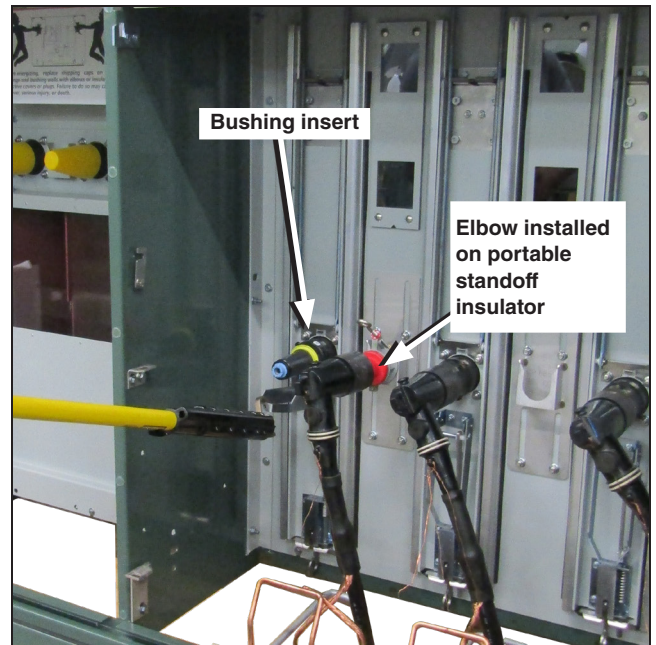

Figure 15. Raising the mechanical interlock to unlock the TransFuser Mounting.
- STEP 3.** When the elbow has been moved and mounted on a feedthru or standoff insulator, the TransFuser Mounting mechanism may be operated. Using the shotgun stick, raise the mechanical interlock to unlock the TransFuser Mounting. See Figure 15. This interlock, which cannot be lifted to the **Unlocked** position until the elbow has been removed, guards against gaining access to the fuse while it is carrying current.